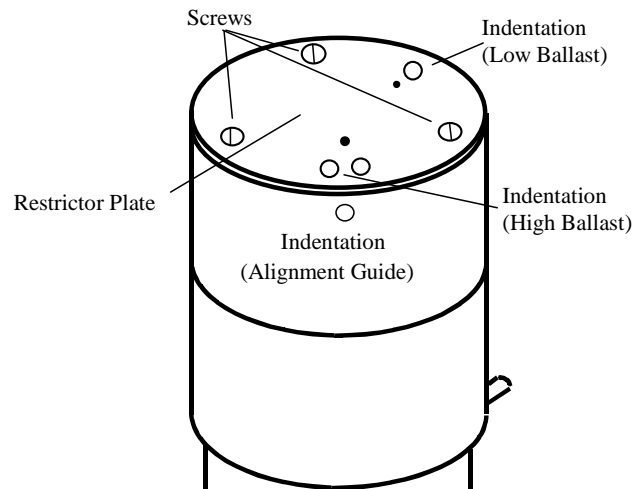

Figure 16 Oil Drain Kit with Ballast Control
- 1 The restrictor plate on top of the aluminum ballast control has three screws. Remove the three screws that secure the restrictor plate. *Do not dismantle the assembly* (see Figure 16).